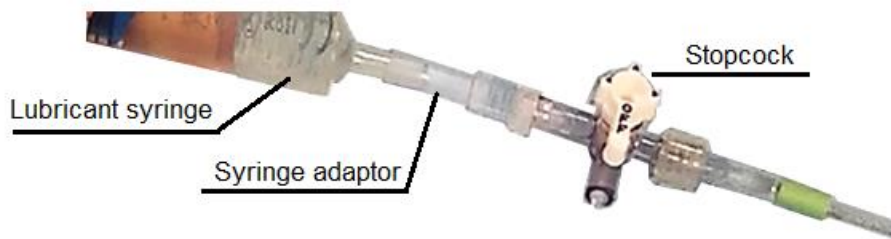

Figure 12: Lubricant syringe with adaptor and stopcock
- a. Connect the provided three-way stopcock and the syringe adapter to both the green and black-labeled channels (*Figure 12*).
- b. Connect the provided low-viscosity lubricant syringes to the syringe adapters by pressing the taper on the syringe into the syringe adapter tubing (*Figure 12*).